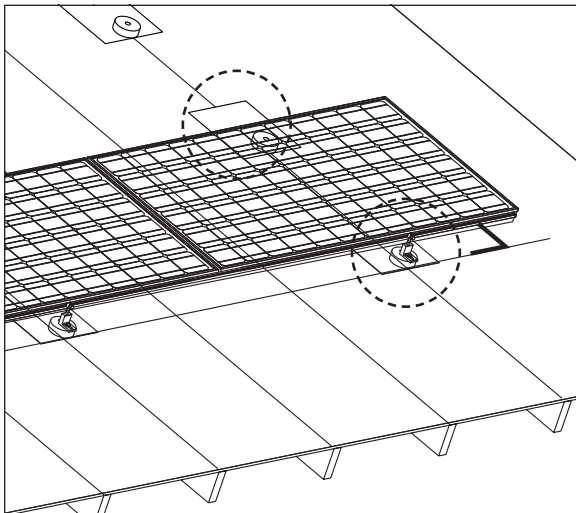

Figure 5.8A
2. Attach the Leveling Foot Zep to the Module groove on top and bottom of the frame immediately above the attachment point to the roof or attachment hardware and loosely secure the Leveling Feet to the roof (Fig. 5.8A).